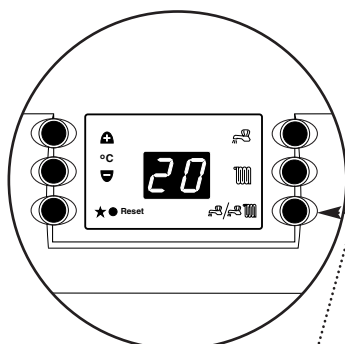
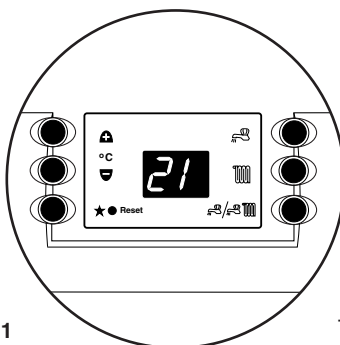

Fig. 40
Fig. 41
6. Press the Summer/Winter Mode Button marked (  ) and the display will show “20” (Fig. 40). The “2” indicates that the installer parameter for pre-heat has been selected. The “0” indicates that the pre-heat is switched off. Press the “+” Temperature Control Button to change this to “21” (Fig. 41), with the “1” indicating that the pre-heat is switched on. 1 minute after the parameter has been set the display will revert to normal operation.